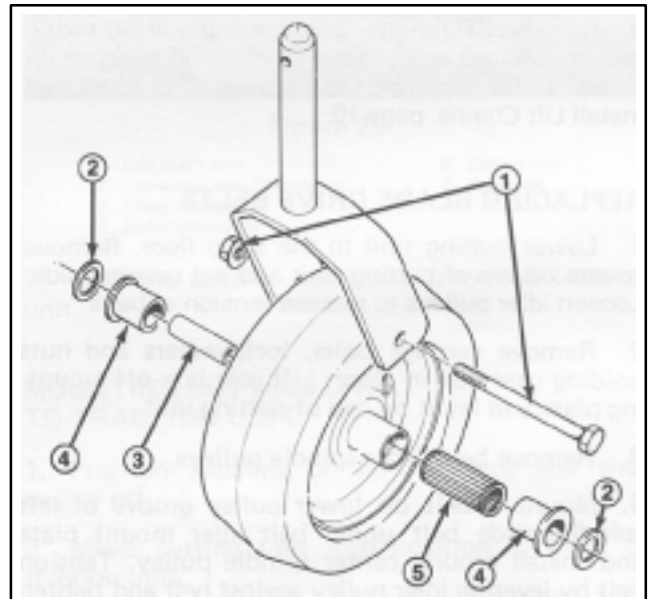

Figure 29
1. Remove capscrew and locknut holding caster wheel and (2) washers between caster fork (Fig. 29).
2. Pull spanner bushing out of wheel hub (Fig. 29).
3. Remove bushing from wheel hub and allow bearing to fall out (Fig. 29). Remove bushing from opposite side of wheel hub.